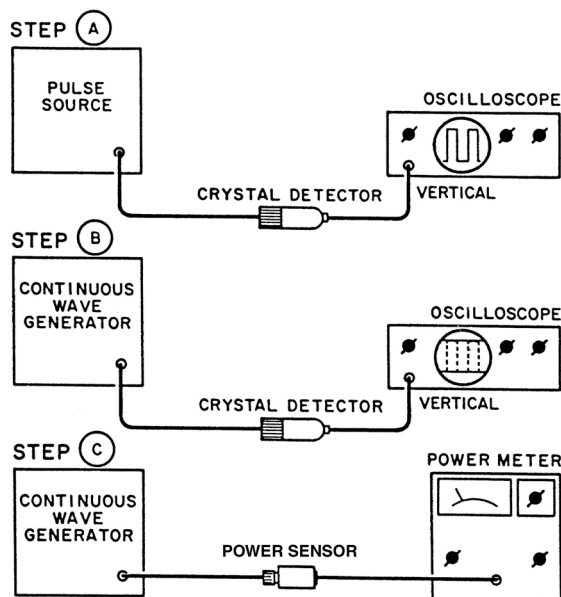

Figure 1 Peak power measurement
Refer to **Figure 1** for the equipment setup in the steps referenced below.
- a Connect equipment as shown in **Figure 1**, step A.